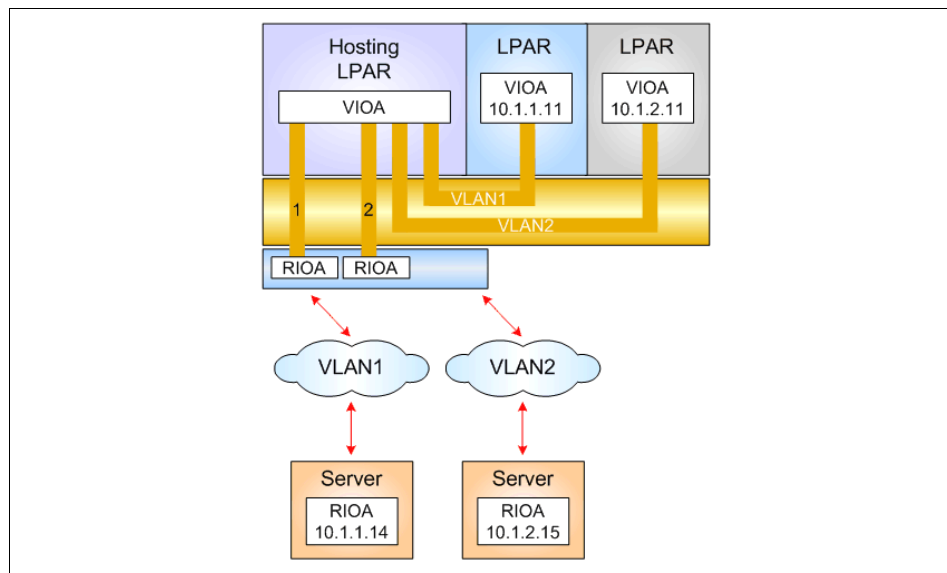

Figure 3-11 Multiple Shared Ethernet Adapter configuration
- ▶ Using several Shared Ethernet Adapters provides more queues and more performance. An example for this configuration is shown in Figure 3-11.